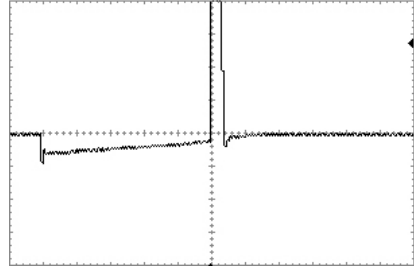

Fig.9
- ♦ **Dmp Sc1** (weak damping) (see Fig.9);